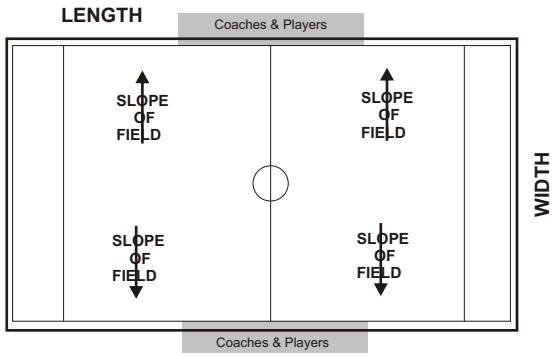

FIG. 7 Determine Slope of Field
1. IDENTIFY SLOPE OF FIELD (See Fig. 7)